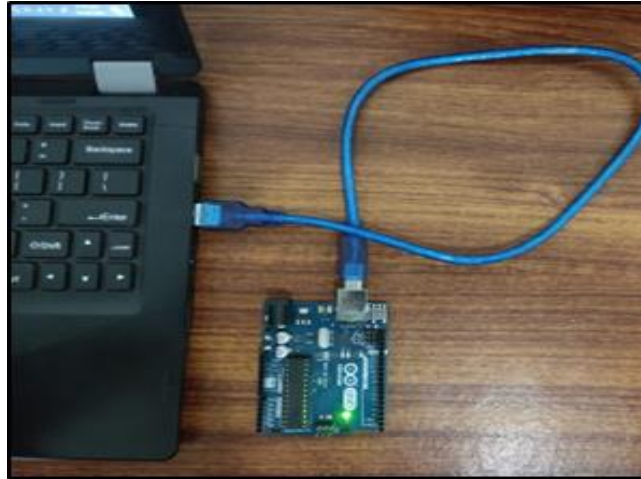

Fig. 1: USB cable connection with PC
Step 1: Collect all the required materials. Connect the USB Type-B cable to the Arduino board and connect the other end to the USB port of the computer. The USB cable is used to transfer the program from the computer to the Arduino board and also provides power supply to the board (Fig. 1).